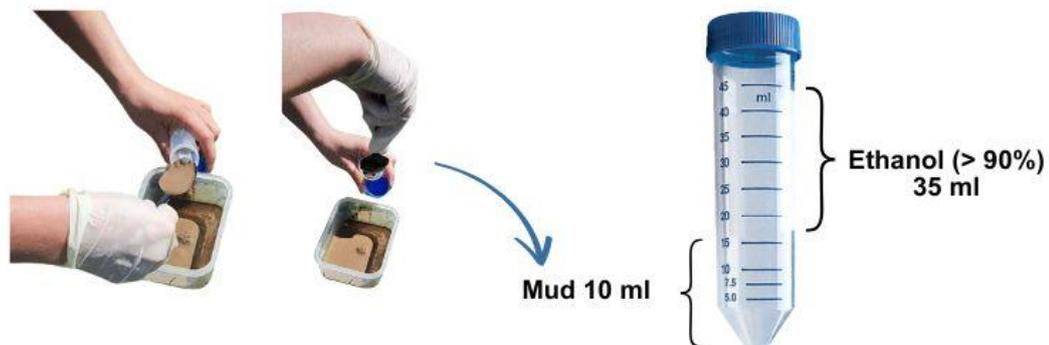

Figure 3. Schematic sampling procedure in the field when mud is available.
- Complete the tube with 90% ethanol (or > 90%) up to 45 ml (leave 5 ml of empty space from the top); (Figure 3)